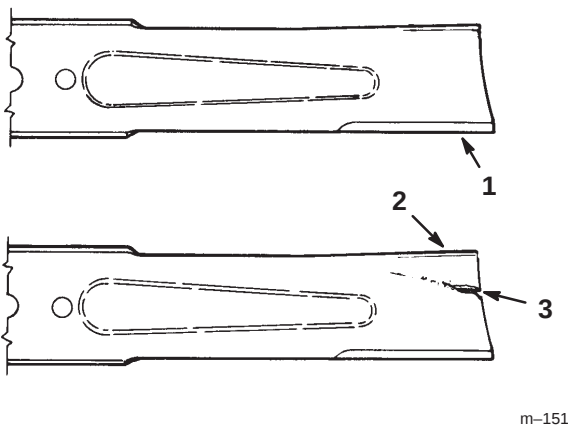

Figure 38
1. Inspect the cutting edges (Fig 38). If the edges are not sharp or have nicks, remove and sharpen the blades. Refer to Sharpening the Blades on page 36.
2. Inspect the blades, especially the curved area (Fig. 38). If you notice any damage, wear, or a slot forming in this area (item 3 in Fig. 38), immediately install a new blade.